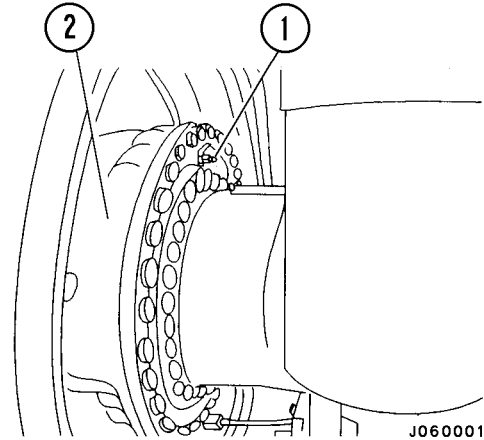
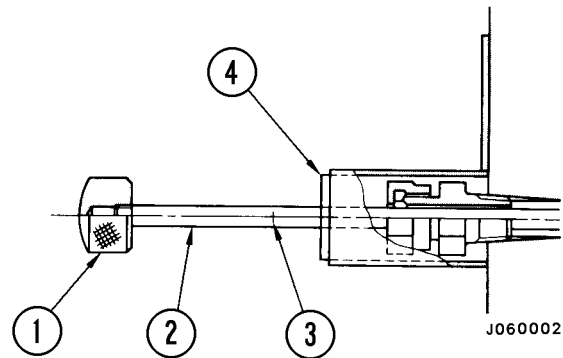

FIGURE 4-11. REAR BRAKE WEAR
FIGURE 4-12. REAR BRAKE WEAR TOOL
2. Remove air bleed plug (1, Figure 4-11) of the rear brake, and install disc wear measurement gauge as shown in Figure 4-12.